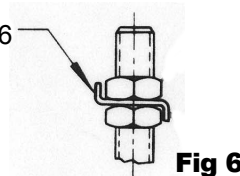

Fig 6
Step 6: Secure nuts by bending one tab of "D" washer up and one down (fig 6).